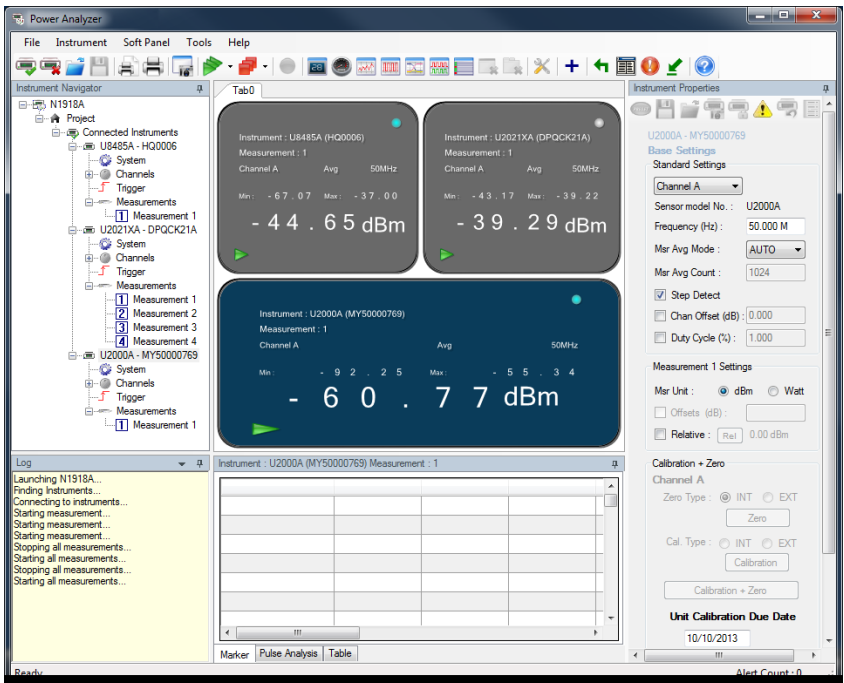

Figure 11. Multi-channel power measurement (in this example with 3 USB power sensors) via Keysight N1918A Power Analysis Manager, Power Analyzer software
3. Synchronize measurement acquisition (see Figure 11).	From toolbar, click Tool and select Options &amp; Settings . From Options &amp; Settings menu, in General tab, click Enable synchronous measurement acquisition and click Apply to proceed.